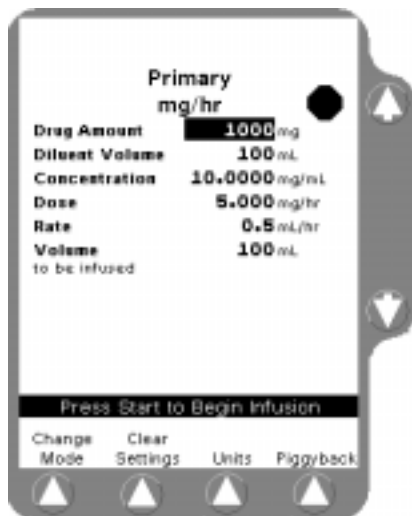

Figure 5-7 Clear Old Settings
4. Press the **Select** soft key to display the Dose Programming screen (Figure 5-7).
Note: Any dose parameters retained in program memory are displayed. To clear the parameters, press the **Clear Settings** soft key (Figure 5-7).